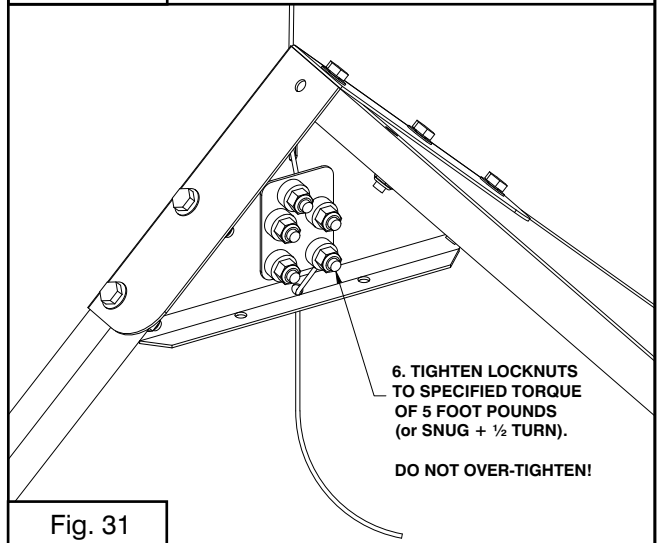

Fig. 31
**8-6.** Torque all 10 locknuts to 5 foot pounds (60 inch pounds). **If you do not have a torque wrench, then snug all 10 locknuts as explained above, then turn each nut one-half turn (180 degrees) beyond snug (see Fig. 31). Do not over-tighten or you may break the studs off!**